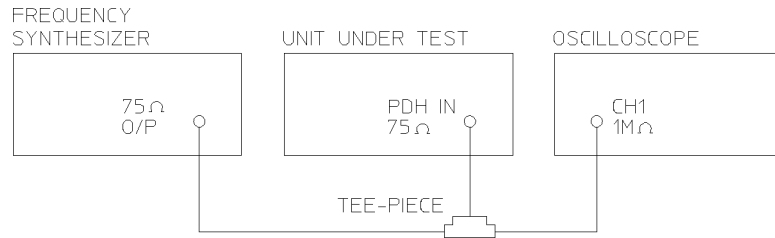

Figure 3-22
2. Connect up the equipment as shown in Figure 3-22.